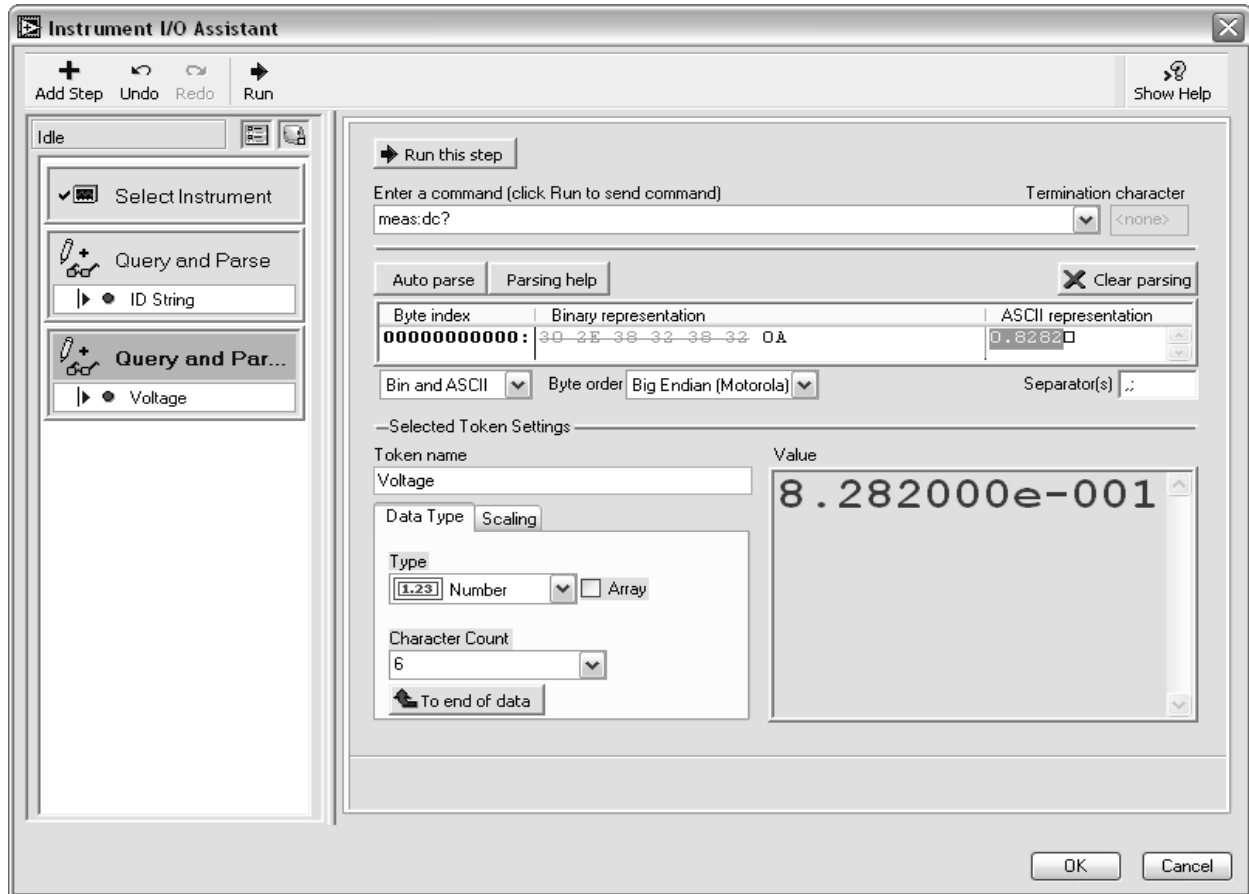

Figure 9-12. GPIB Configuration of the Instrument I/O Assistant
- Rename `Token` by typing `Voltage` in the **Token name** text box. The configuration window should be similar to Figure 9-12.